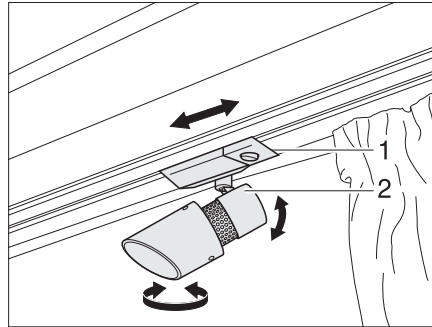

Fig. 44 Spotlight
- Grasp the housing (Fig. 44,2) and turn it.
- Grasp the holder (Fig. 44,1).